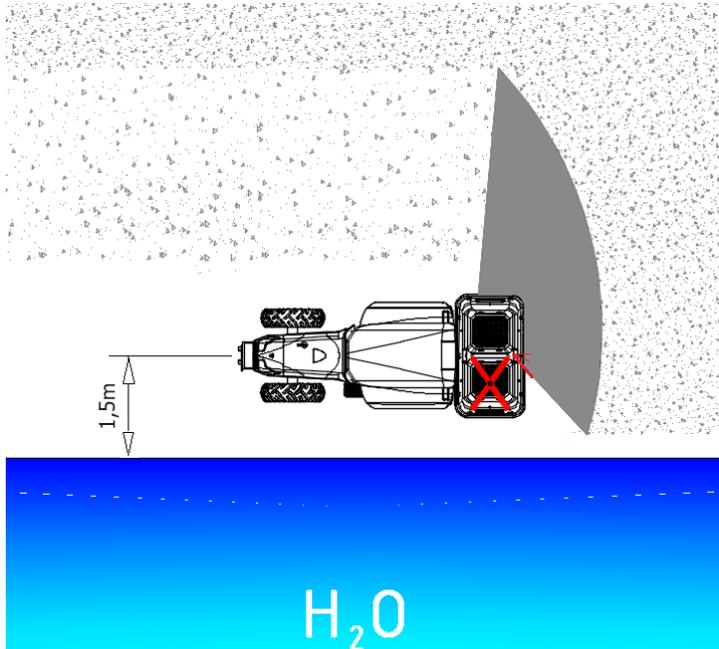

Figure 6.10 - Spreading limited "from the border"
If you want to limit spreading to complete half of the spreading scheme (Figure 6.10), limiting "from the border", you should proceed as follows:
- Move the tractor 1.5 metres from the centre of the tractor to the borde, as shown in the image opposite (Figure 6.10);